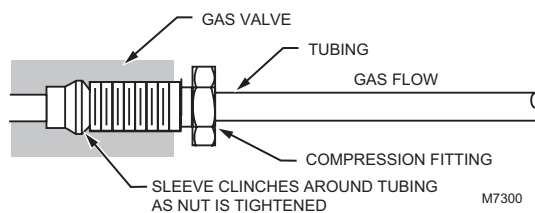

Fig. 4. Connecting tubing to pilot for bleed gas tapping.
## Connect Pilot and Bleed Gas Tubing (Fig. 4)
2. Unscrew brass compression fitting from pilot gas tapping (Fig.4). Slip the fitting over the tubing and slide out of the way.